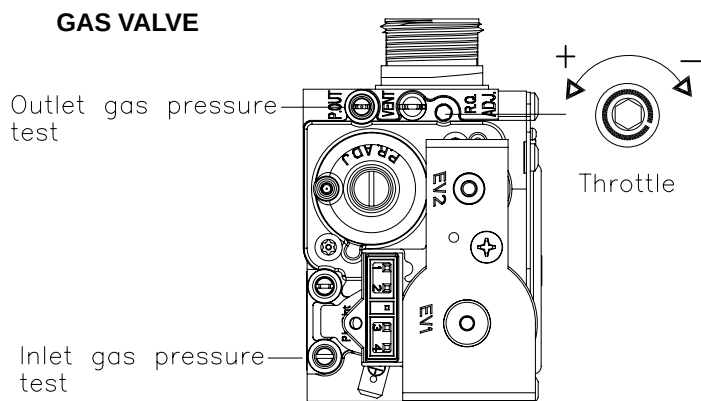

Fig. 34
- 2 - Check gas mains pressure at the gas valve test nipple upstream (Fig.34) with boiler operating. Sect.6.8.
Check the gas mains pressure at the gas valve inlet pressure test (Fig.34) with boiler operating.
**IMPORTANT : the Gas Valve Throttle adjuster is required to be sealed with tamper proof paint after adjustment (fig. 34).**
Refer to tables 1/A, 1/B, 1/C and 1/D section 3 adjust the maximum level of CO2 by turning the Throttle (allen screw 2.5 mm) on the gas valve (Fig.34).